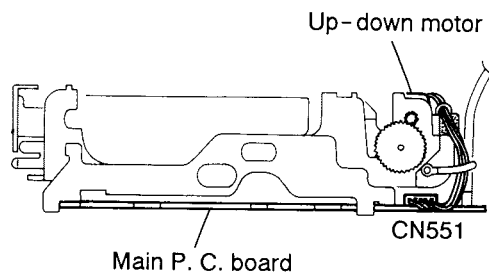

Fig. 4-10
(See Figs. 4-10 ~ 4-12)
1. After turning the body over to the right side, the connector wire outgoing from the up - down motor and round motor should be disconnected from the connector CN551 on the main P.C. board (See Fig. 4-10).